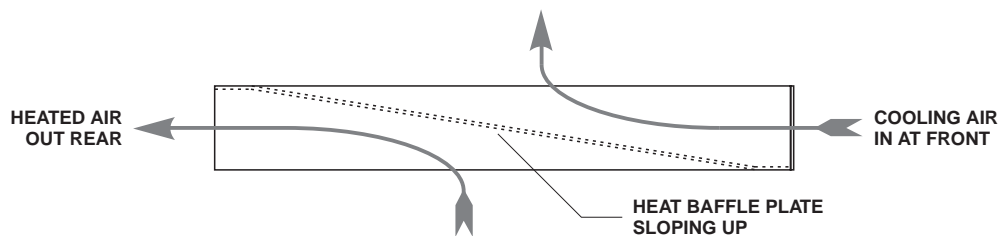
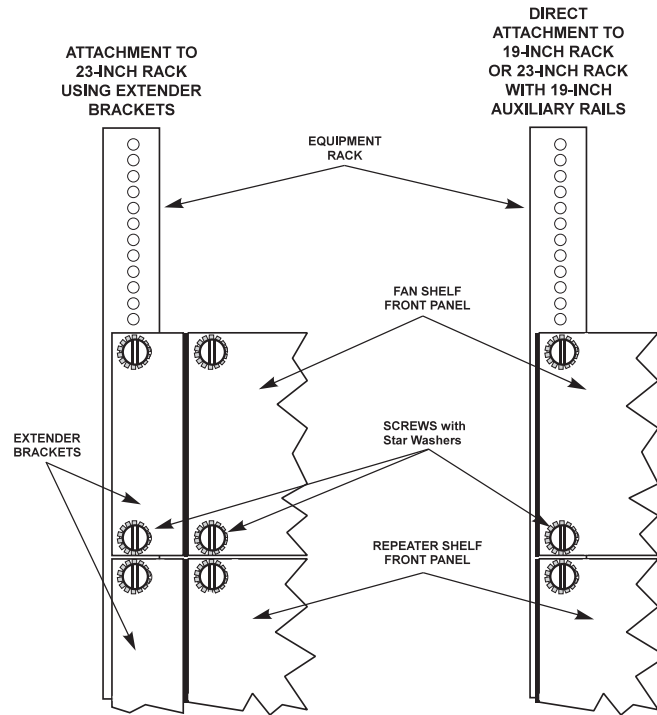

Figure 504-2. Orienting Baffle Plate for Required Airflow
Figure 504-3. Positioning Heat Baffle and Securing to Rack
4. Orient the unit so that its sloping baffle plate will direct airflow as required (**Figure 504-2**) and position the unit in its assigned location in the rack (**Figure 504-3**).